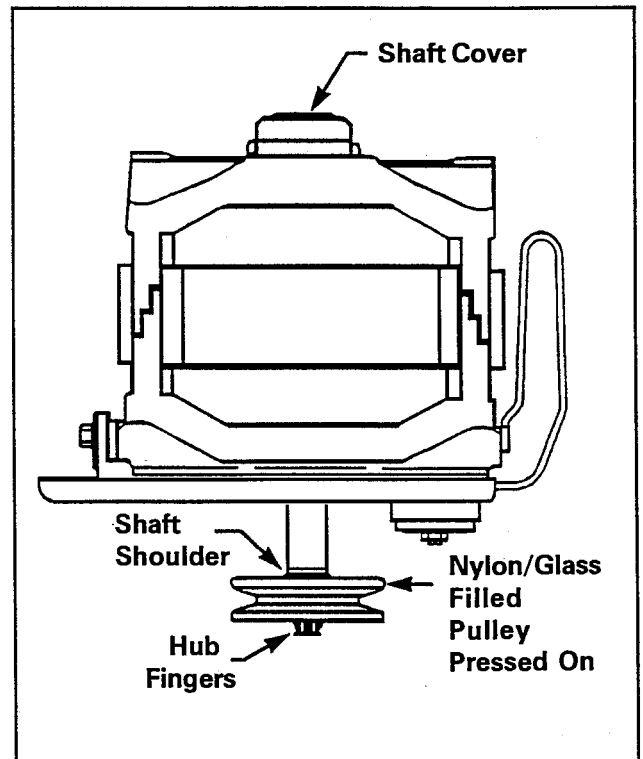

Figure 8-15
3. Place a 1/2 inch I.D. socket, pipe, etc., over the hub fingers and ***gently*** tap the pulley over the splines until it bottoms out on the shaft shoulder (Figure 8-15).